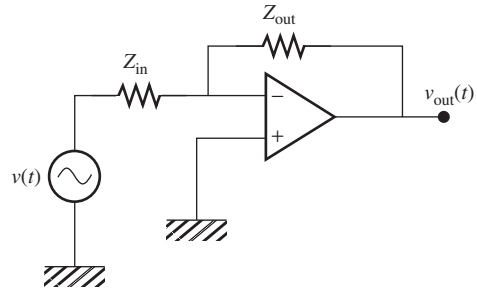

FIGURE P6.40 An inverting amplifier.
6.40 (A) An op amp is used as an amplifier to increase the magnitude of voltage output given the input voltage source. An **inverting amplifier** (see Figure P6.40) is one popular type of op amp. Given that the inverting amplifier has a gain of $G = -(Z_{out}/Z_{in})$, what is the output voltage if the voltage source is $v_S(t) = 50 \cos(120\pi t + 30^\circ)$ and $Z_{in} = 35 \Omega$, $Z_{out} = 105 \Omega$?